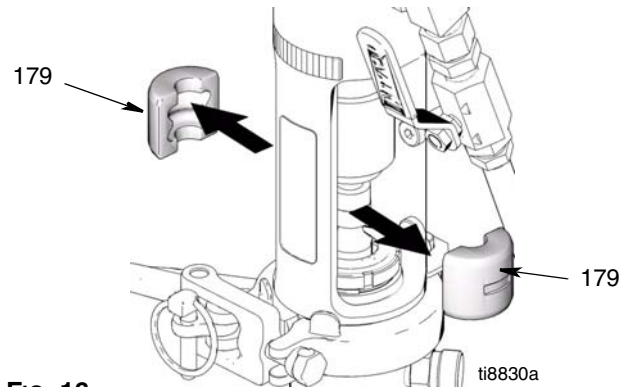

FIG. 16
6. (Fig. 16) Remove rod couplers (179).